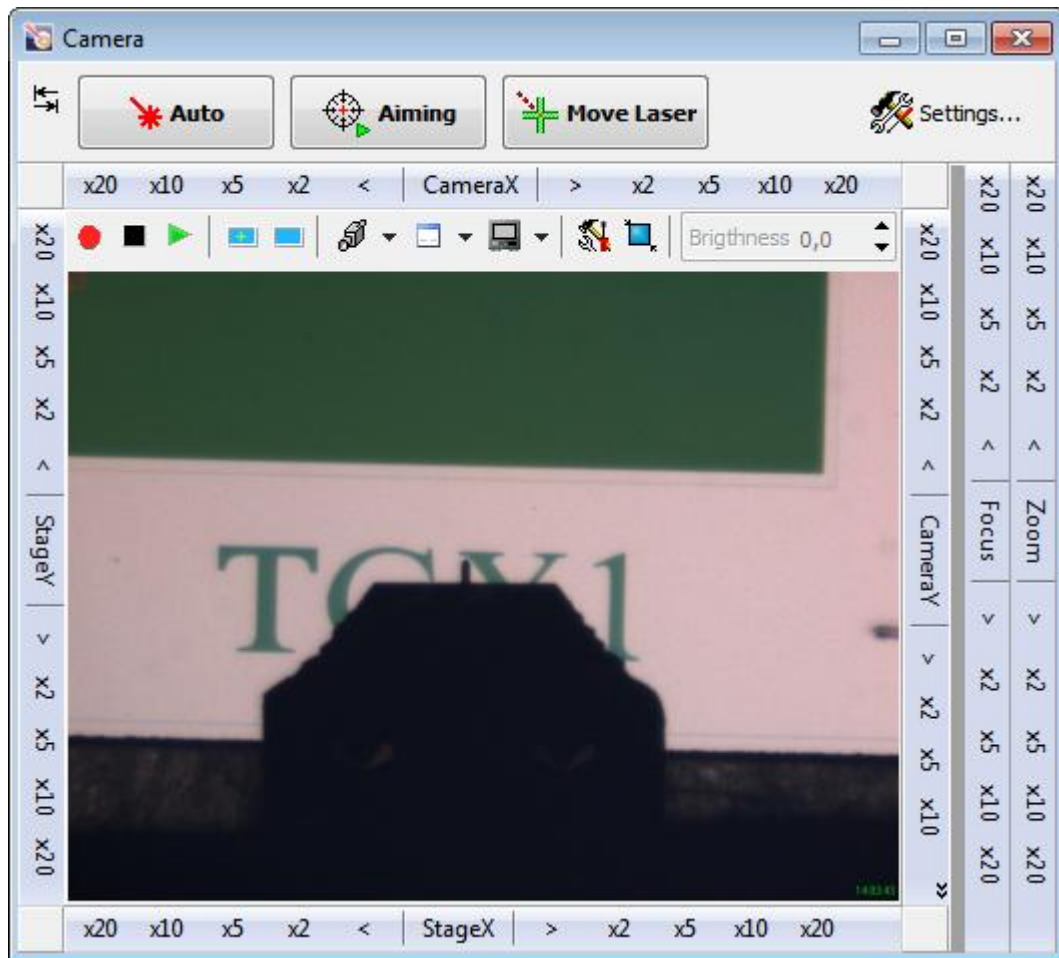

Fig. 6-35. Video image from the videomicroscope
2. Enable viewing by clicking the  button. An image of the sample surface and of the probe will appear in the window (Fig. 6-35).
4. Using the sample image (Fig. 6-35), find a relevant area for investigation. Move the sample so that the selected area is under the probe tip. The sample can be displaced in one of the following ways: